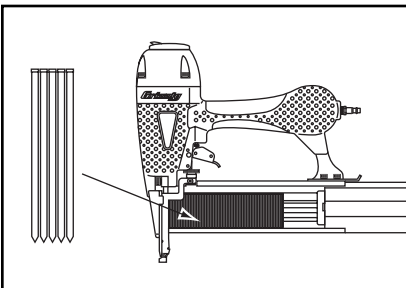

Figure 2. Loading brad nails into nailer.
4. Point the nailer down and insert a stick of brad nails into the magazine as shown in **Figure 2**. Make sure that the pointed ends of the nails rest in the slot at the bottom of the magazine.